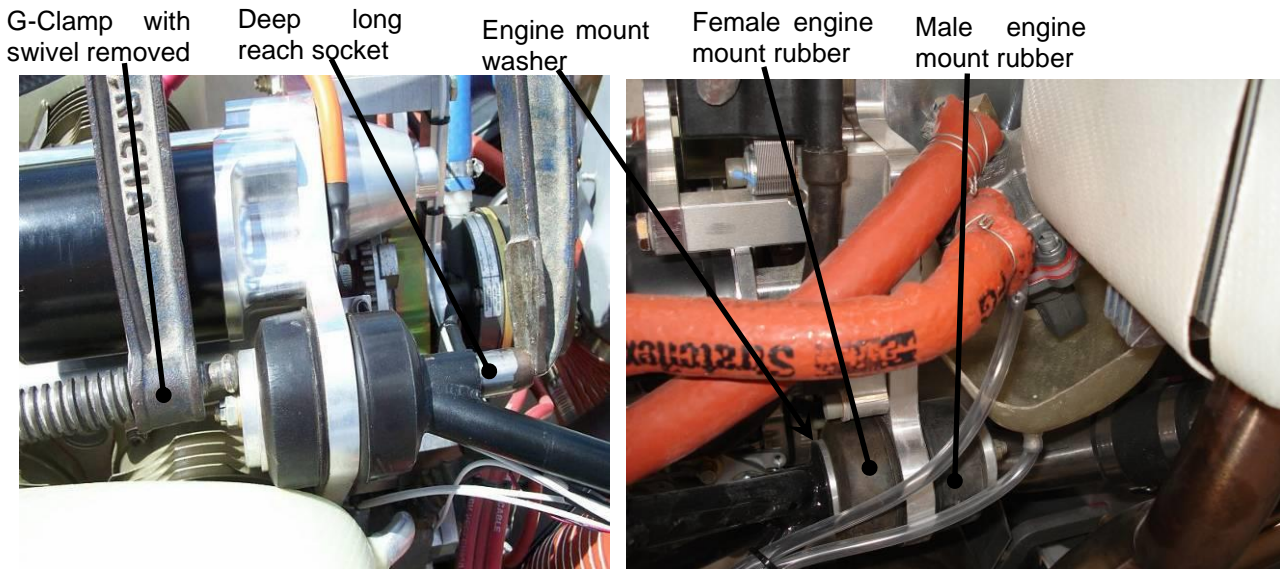

Figure 36 Upper and Lower Engine Mount Detail
- To place the nuts on the mount bolts the rubbers must be compressed. Do this by using a deep reach socket inside the engine mount pins and clamping the rubber mount assembly using a G-clamp with the swivel taken off the ball. See Figure 36. Start nuts on both upper mount bolts.
- Connect the fuel line to fuel pump (Refer to Figure 36). Ensure the fireproof sleeve is in place.
- Ensure that the fuel overflow line is in place, and secured to vent overboard. This is the small, clear hose shown leading from the fuel pump in Figure 36.